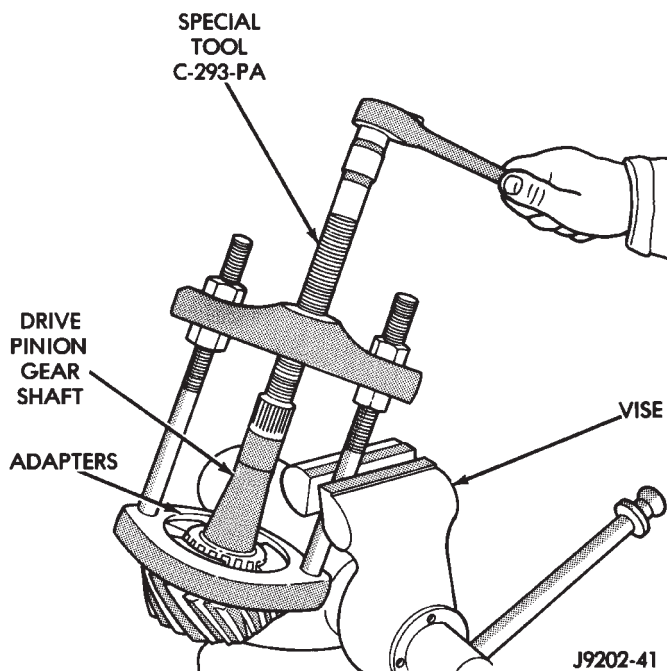

Fig. 32 Inner Bearing Removal
(10) Remove the rear pinion bearing from the pinion with Puller/Press C-293-PA and Adapters C-293-48 (Fig. 32).